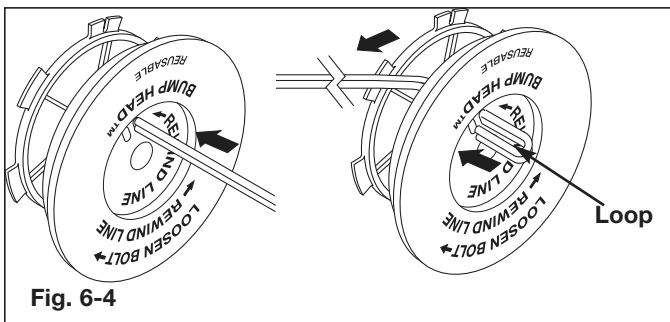

Fig. 6-4
6. Take approximately 30 feet (9.1 m) of new trimming line, loop it into two equal lengths. Insert each end of the line through one of the two holes in the inner reel (Fig. 6-4). Pull the line through the inner reel so that the loop is as small as possible.